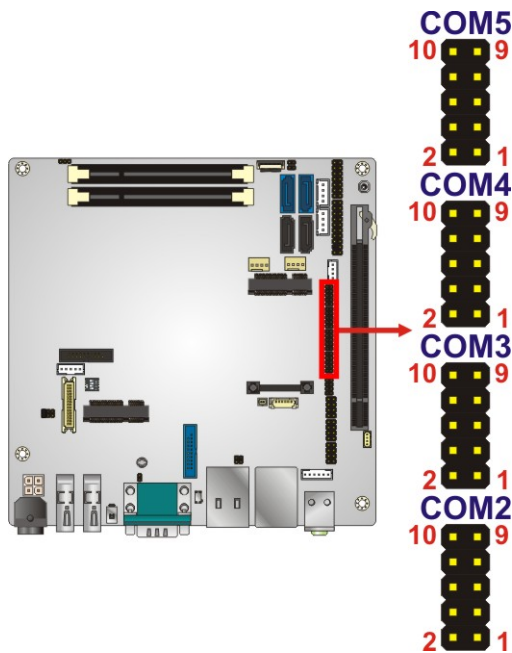

Figure 3-21: RS-232 Serial Port Connector Location
- CN Location:** See **Figure 3-21**